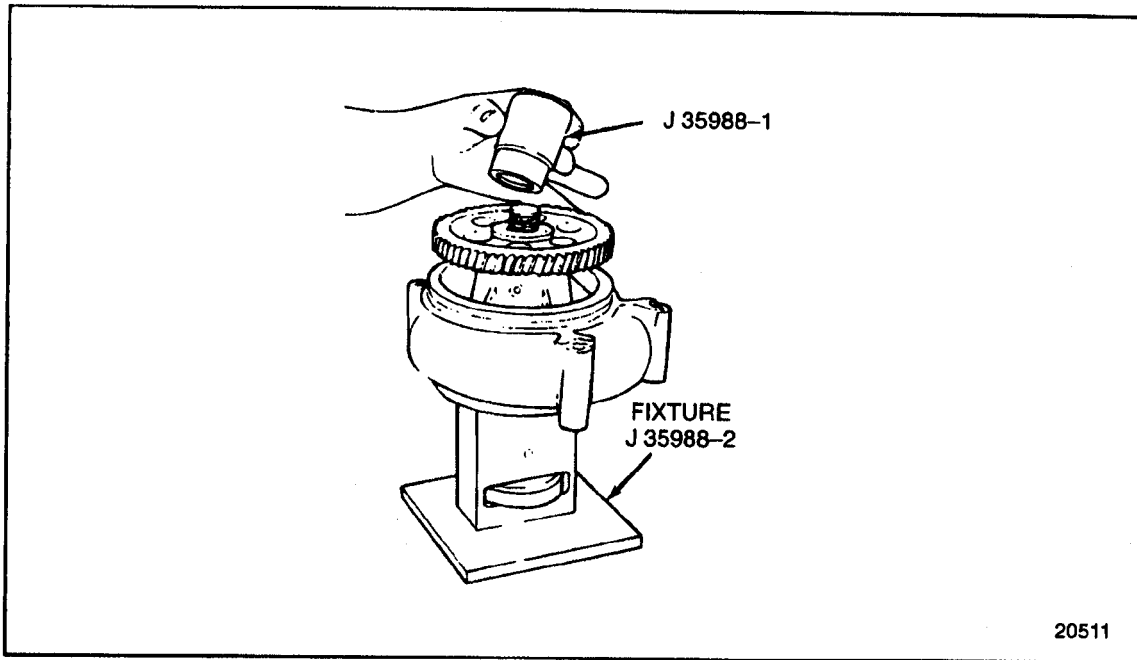

Figure 4-63 Water Pump Drive Gear Installation (FM)
27. Using the small end of tool J 35988-1A, part of tool set J 35988-B, press the drive gear down onto the drive shaft until it touches the bearings. See Figure 4-63.